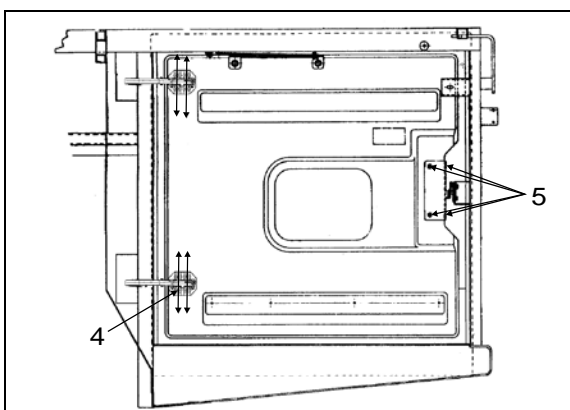

FIGURE 83: ENGINE COMPARTMENT R.H. DOOR
8. Loosen screws (4, Figure 83).